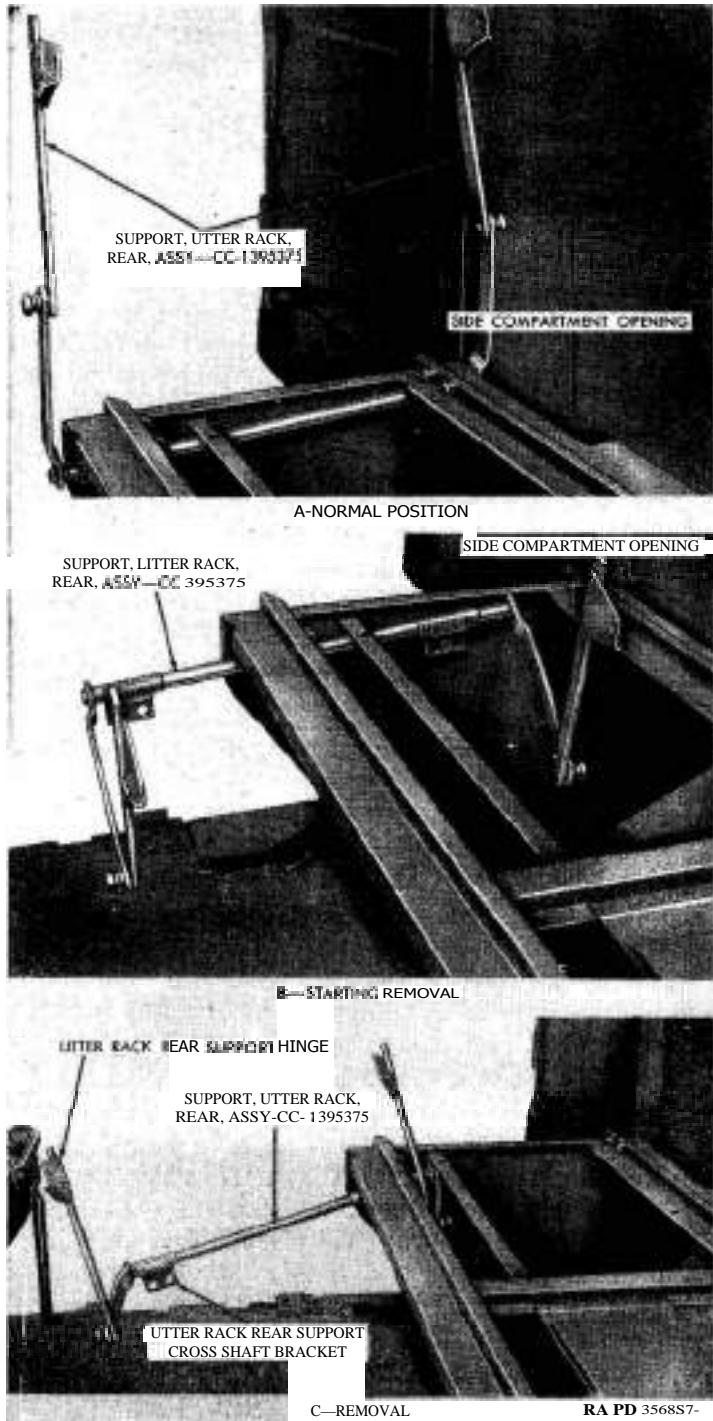

Figure 214. Removing litter rack rear support assembly.
- (1) Lower outside arm of litter rack rear support assembly into side compartment opening. Refer to A of figure 214.
- (2) Lift inside end of litter rack support and move outside arm into side compartment opening. Refer to B of figure 214.
- (3) Raise outside arm of litter rack support up and over side compartment inside panel and remove support from body. Refer to C of figure 214.
- (1) Inspect litter rack rear support assembly (*fig. 214*) for
d. Position Litter Rack Rear Support Assemblies in Body Side Compartments. Insert outside arm of litter rack rear support assemblies up through opening in side compartment with litter rack rear support cross shaft brackets toward front of body. Refer to C of figure 214. Lift outer end of litter rack support and position support so that outside arms will be in side compartment. Refer to B of figure 214. Insert outside arm up through side compartment opening. Refer to A of figure 214.